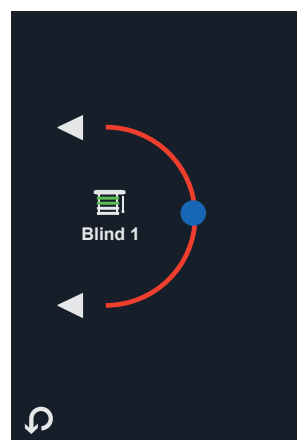

Fig. 9b 'Tilt'
- rotary movement "Tilt" (Fig.9b)